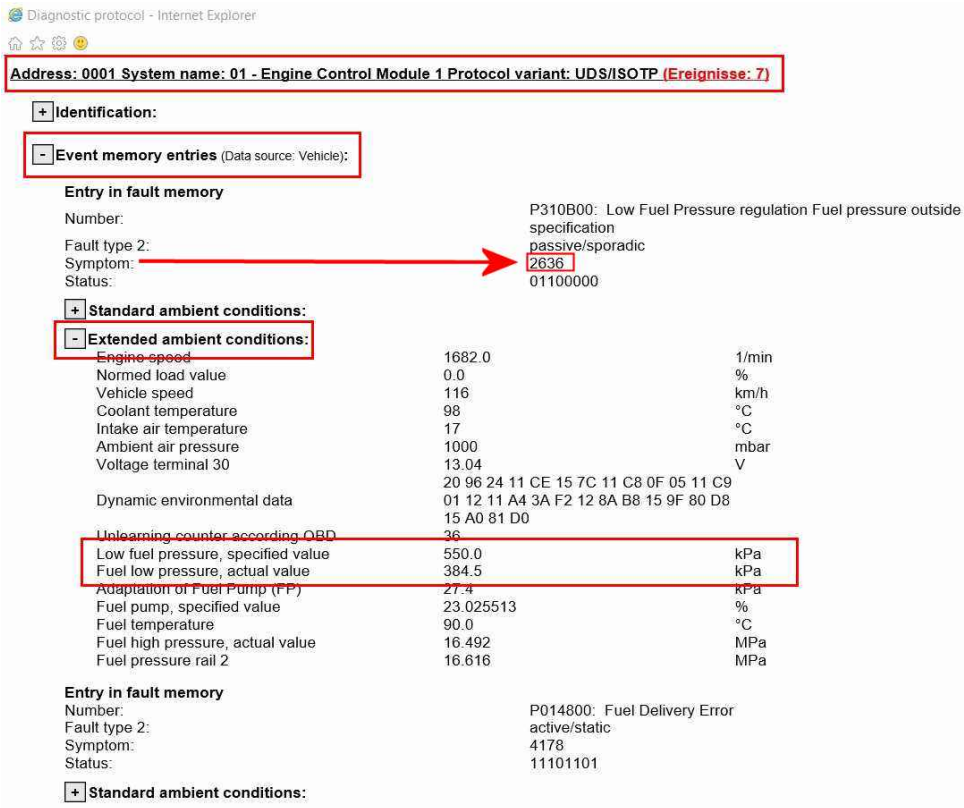

Figure 1
2) Check **"Low fuel pressure, specified value"** and **"Fuel low pressure, actual value"** within the fault memory, refer to ECU **"01 – Engine Control Module 1"** - From **"Extended ambient conditions"** note the values of the **"Low fuel pressure, specified value"** and **"Fuel low pressure, actual value"** as shown in Figure 1.